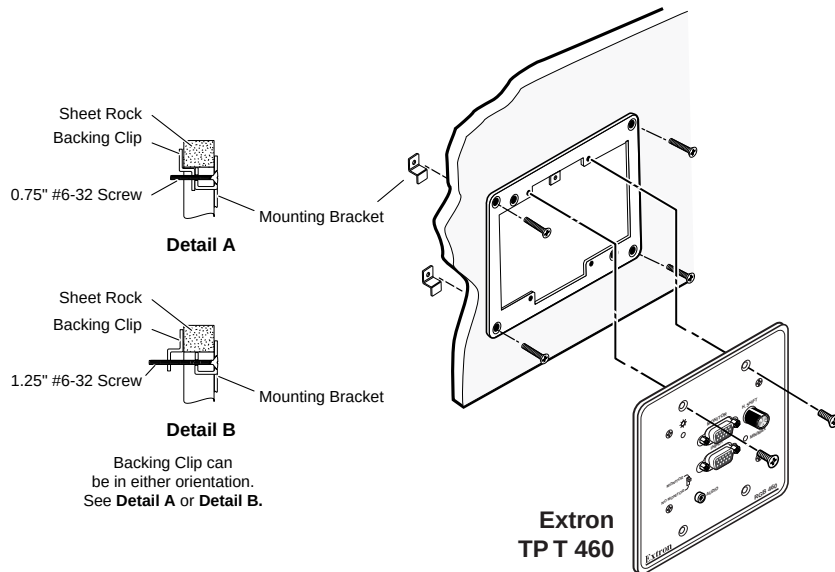

Figure A-3 — Attaching a mud ring to a wall
- 7a. If you are using a mud ring, follow the directions, if any, that came with the mud ring to attach the clips that fasten the ring to the wall or furniture (figure A-3). The illustration applies to both two-gang and four-gang mud rings.